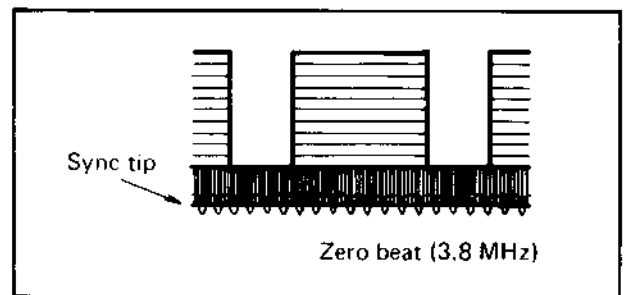

Fig. 5-18 Carrier and deviation adjustment - A
5. Set the frequency of high-frequency sine-wave generator to 3.8 MHz, and adjust R20 (CARRIER SET) so that the waveform observed at the oscilloscope shows a zero beat at the bottom of the waveform as shown in Fig. 5-18.